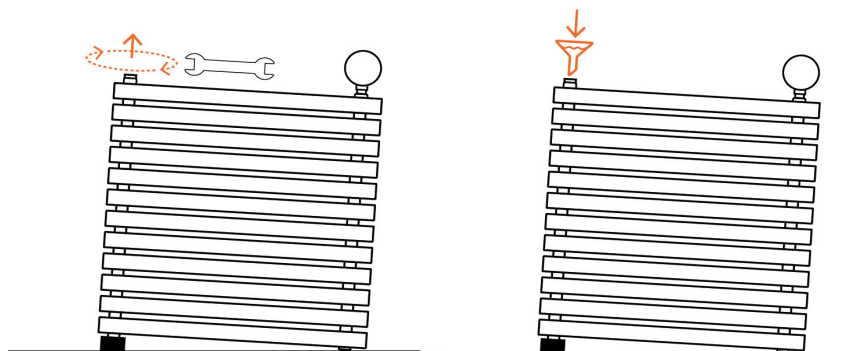
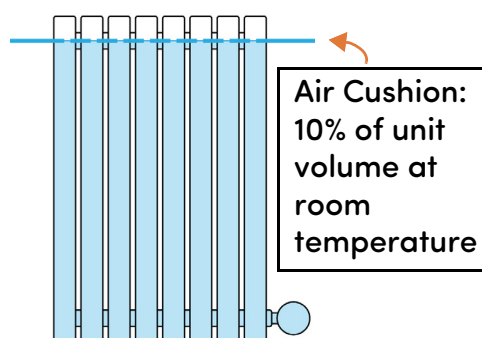

Figure 5 | Removing radiator cap and using funnel to fill
Figure 6 | Air cushion (for illustrative purposes only)
7. If the radiator has been pre-filled by the manufacturer, skip to the next step. If the radiator is yet to be filled, tilt the radiator so the next free filling cap is at the highest point. Remove the cap and fill the radiator to 90% of its volume with a suitable heating medium (**Figure 5 & Figure 6**). This should be a glycol-based formulation approved by the radiator manufacturer. Replace cap when done.